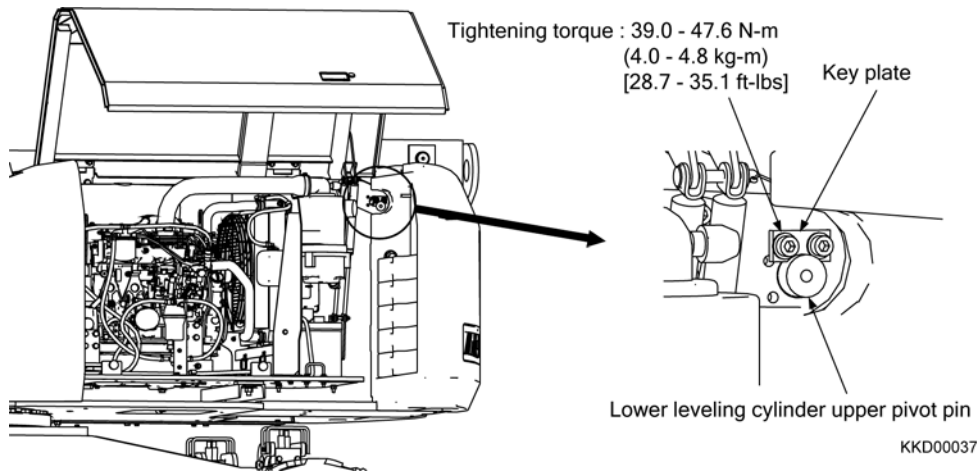

Fig. 2-66
17) Fix the lower leveling cylinder to the boom. (Fig. 2-66)